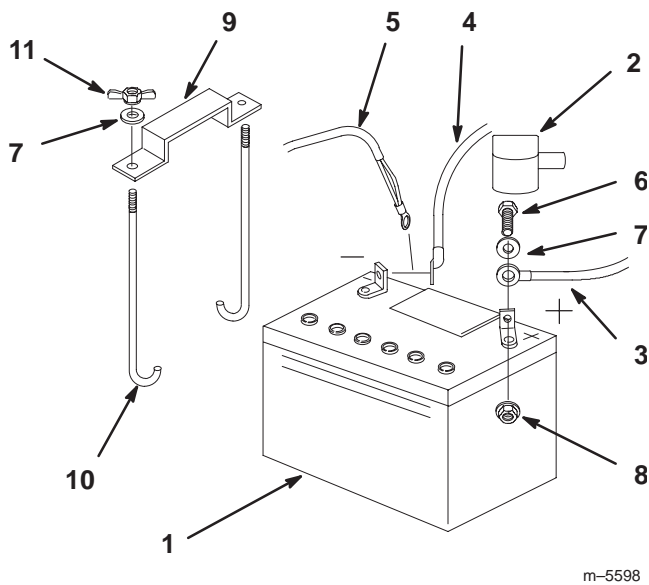

Figure 55
1. Position battery in tray with terminal posts toward the engine (Fig. 55).
4. Secure cables with 2 bolts (1/4 x 3/4 in.), 2 washers (1/4 in.), and 2 locknuts (1/4 in.) (Fig. 55).
6. Secure battery with J-bolts, hold down clamp and 2 washers (1/4 in.), and 2 wing nuts (1/4 in.) (Fig. 55).
3. First disconnect the negative battery cable and ground wire from the negative (-) battery terminal (Fig. 55).
4. Slide the red terminal boot off the positive (red) battery terminal. Then remove positive (red) battery cable (Fig. 55).
5. Remove both wing nuts (1/4 in.) securing the battery clamp (Fig. 55).